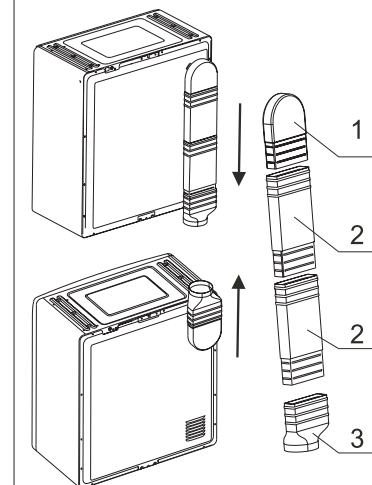

Fig. 4
7. Using 4X12 mm screws (provided) to fix the 2 spacers as per Fig4.